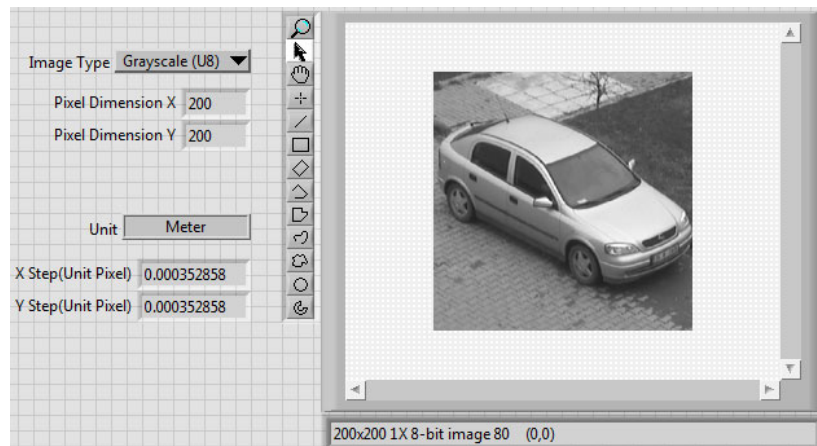

Figure 4: Front Panel of Exercise 1
1. Create a **Front Panel** as illustrated in Figure 4. First, from **Control>>Vision**, place an **Image Display**.